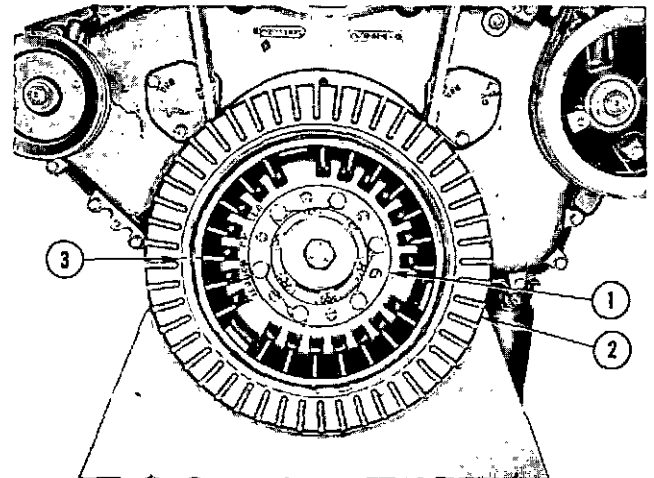

Fig. 2-73 (V41932) Vibration damper alignment marks
Damper hub (1, Fig. 2-73) and inertia member (2) are stamped with an index mark (3) to permit detection of movement between the two components.